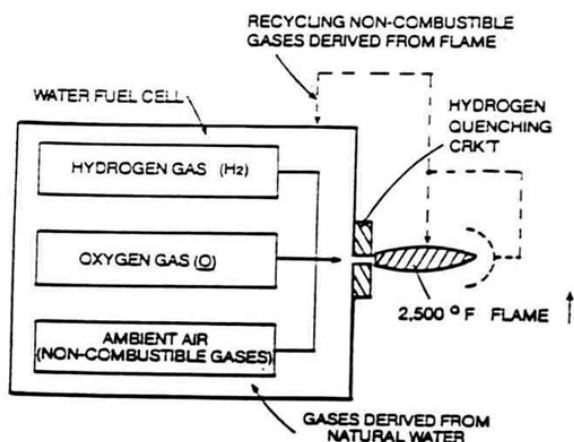

FIG. 24: RENDERING HYDROGEN SAFER THAN NATURAL GAS
Catalytic Dome Assembly (10/30) positioned on top of and in space relationship to a Quenching Nozzle (20) affixed on top of and to a natural Water Fuel Cell, as illustrated in Figure 24 as to **Figures 24SA, Figure 24SB, and 24SC.**
The gas mixing ratio remains the same regardless of the gas rate of said Fuel Cell, as so described in Figure 24.
The **ambient air gases** (*composed of non-combustible gases that do not support the burning process*) act as a gas-burning modulator that retards the speed at which the hydrogen atoms unite with the oxygen atom during the gas burning process, see Figure 24 again.
The gas mixing ratio of said Fuel Cell automatically adjusts the burn rate of **hydrogen gas from 325 cm/sec to 42 cm/sec**, co-equating the burn-rate of natural gas, as illustrated in Figure 24 as to Figure Graph 23.
To reduce the burn-rate of the hydrogen gas still further to lower flame temperature, simply **capture** (1) and **recycle** (2) the **non-combustible gases** (3) being expelled from said sustained **hydrogen flame** (9), as illustrated in Figure 24 as to **Figure 24SC**.